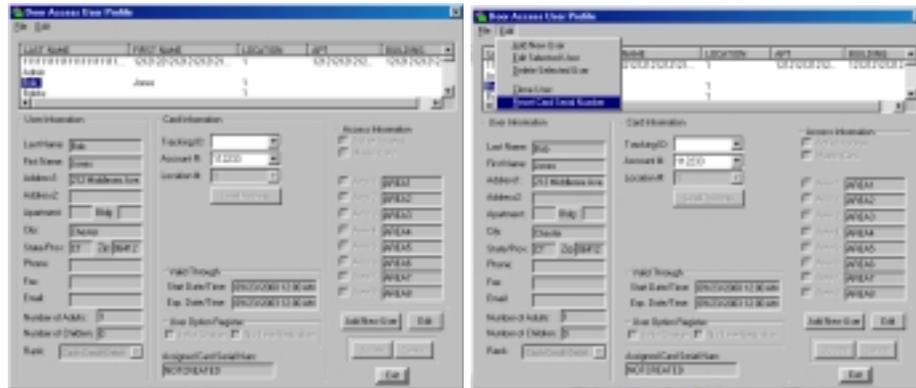

Figure 11.26 Resetting a User Card Serial Number
1. In the Door Access User Profile Window select the user for whom the card serial number is to be reset (Figure 11.26).
3. Select Reset Card Serial Number from the Edit drop-down menu (Figure 11.26).